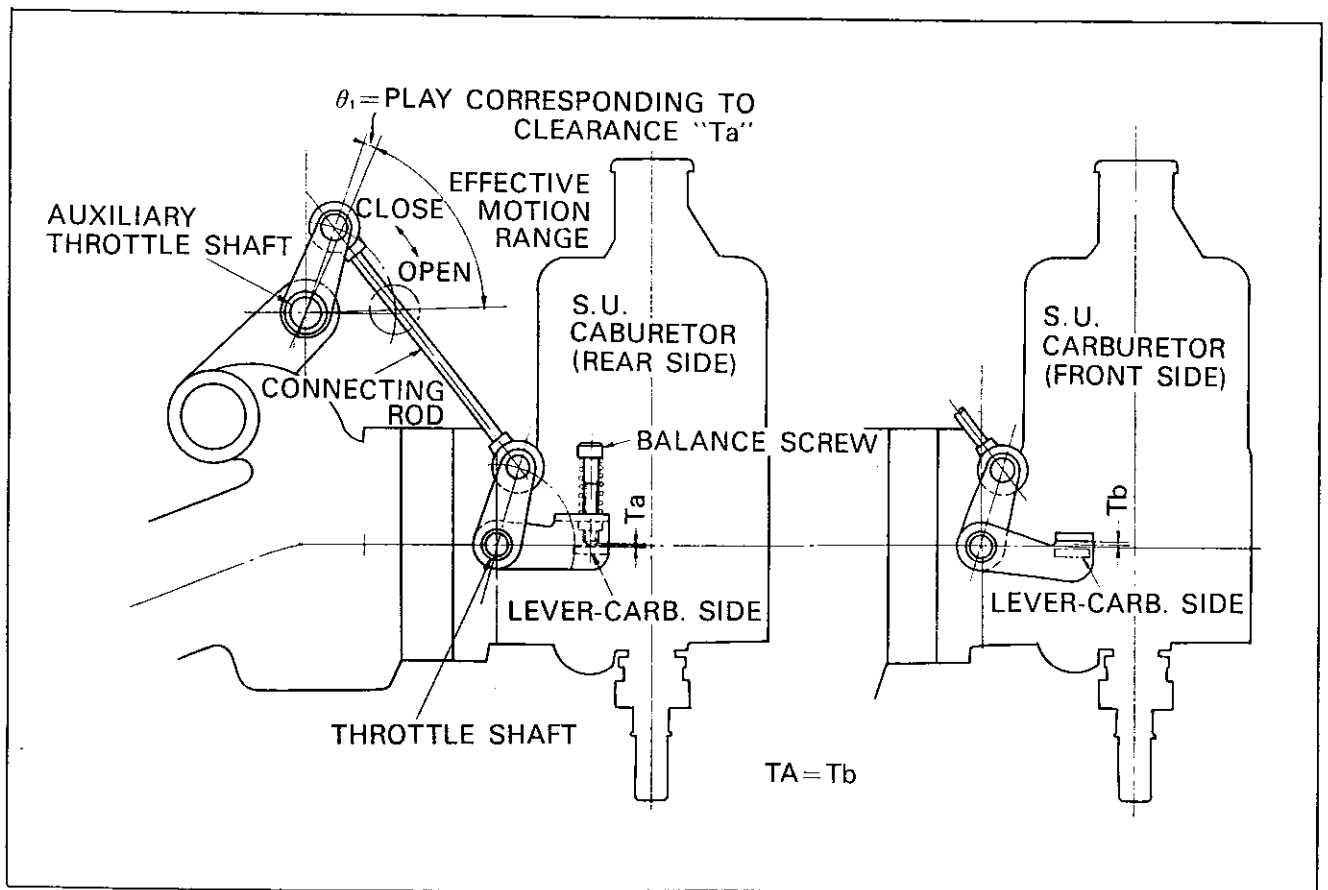

Fig. EC-30 Adjusting idle speed and mixture
c. When the throttle adjusting screw is returned during the above adjustment and engine speed cannot be reduced below 750 rpm, other adjusting screws such as opener adjusting screw ⑬ and balance screw ⑭ must have been tightened excessively or the accelerator linkage must have not been adjusted correctly. Under the normal condition, the auxiliary throttle shaft ⑧ and throttle shaft ⑪ should have a slight play during engine operation under the idling speed. In other words, the auxiliary throttle shaft ⑧ should be provided with a play "Q1" which corresponds to the clearance $T_a = T_b$ as shown in Figure EC-30.